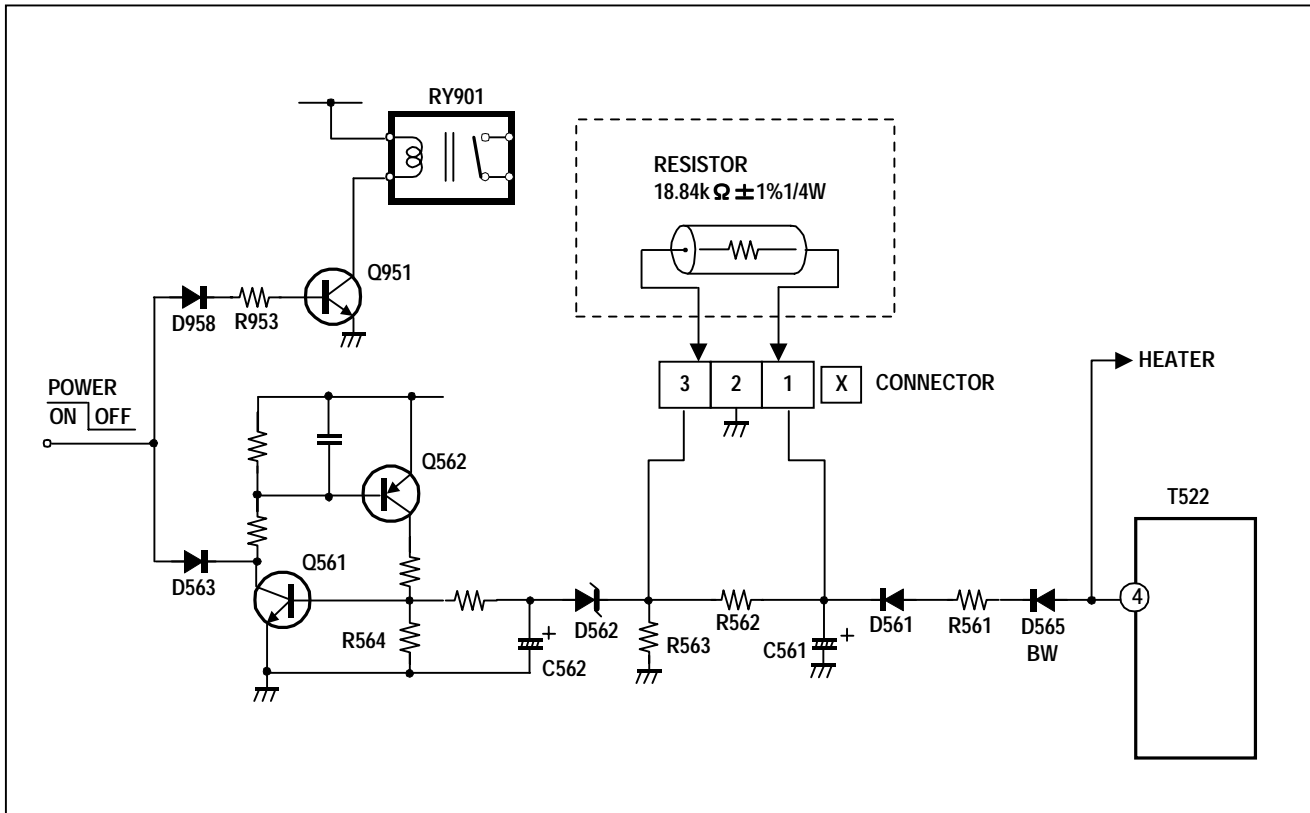

Fig. 1
After repairing the high voltage hold down circuit shown in Fig. 1.
- (1) Turn the POWER SW ON.
- (2) As shown in Fig. 1, set the resistor (between X connector 1 & 3).
- (3) Make sure that the screen picture disappears.
- (4) Temporarily unplug the power cord.
- (5) Remove the resistor (between X connector 1 & 3).
- (6) Again plug the power cord, make sure that the normal picture is displayed on the screen.